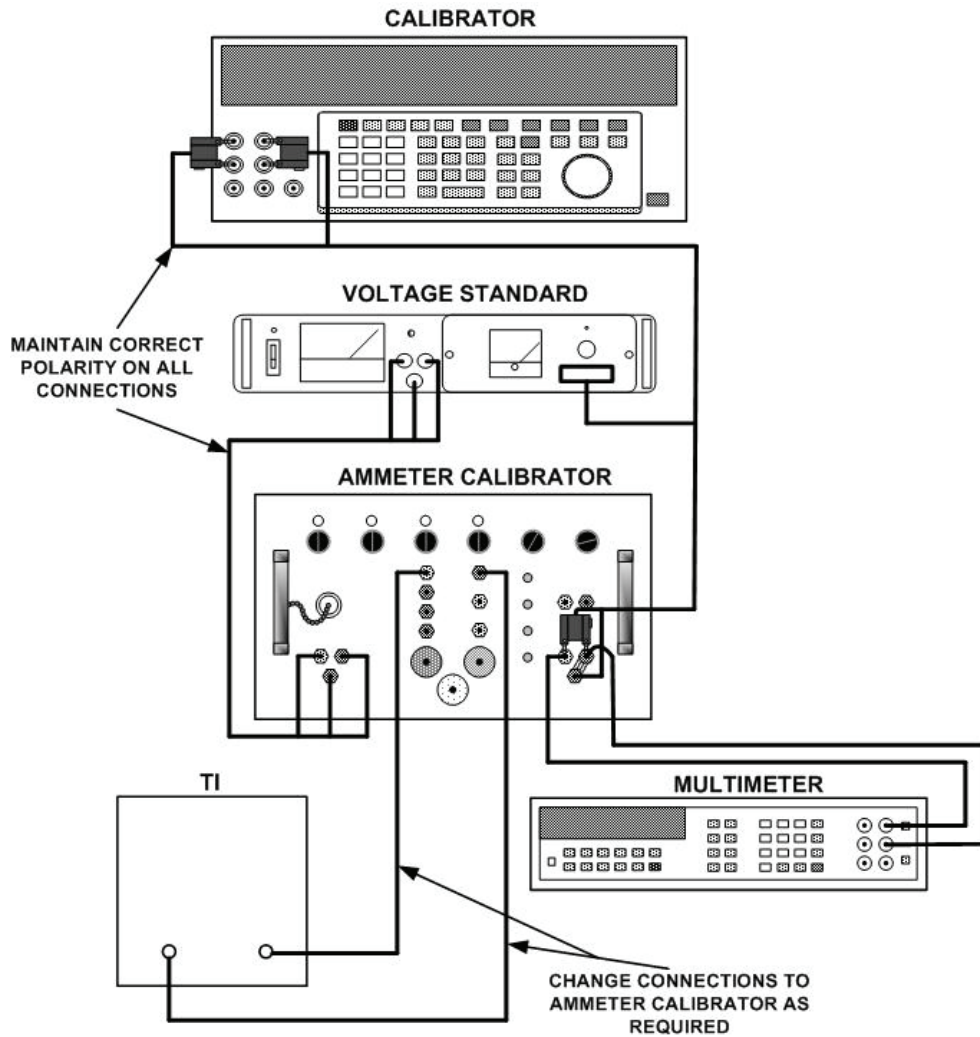

Figure 2. Ac current - equipment setup.
(1) Set TI function switch (if applicable) to ac current and set range switch to lowest range.
(2) Connect equipment as shown in figure 2.
(3) Adjust calibrator frequency for 60 Hz and voltage output as required to obtain full-scale indication on TI. Multimeter will indicate within limits specified under accuracy in table 7 for TI being calibrated.
(4) Repeat (3) above at low (50 Hz) and high (as applicable) (1000 Hz maximum) frequency listed for TI.
(5) Repeat technique of (1), (3), and (4) above for remaining ranges.